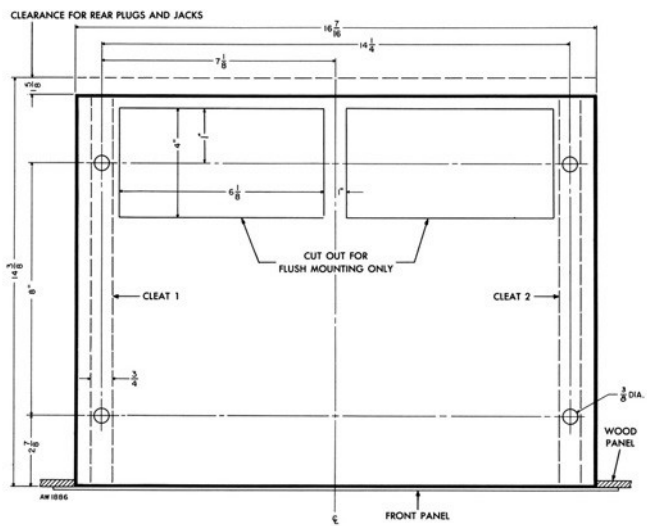

FIGURE 6. Custom cabinet installation
- 2—Fasten the two cleats to the top of the mounting board with wood screws, in the positions shown in Figure 6. Then locate and drill four  $\frac{3}{8}$ -inch holes through the mounting board and cleats as indicated.
1—Cutouts must be made in the mounting board beneath the ventilation holes in the bottom cover of the X-1000, as shown in Figure 6. The back of the cabinet must remain open.
2—Locate and drill four ⅜-inch holes in the mounting board as shown in Figure 6.